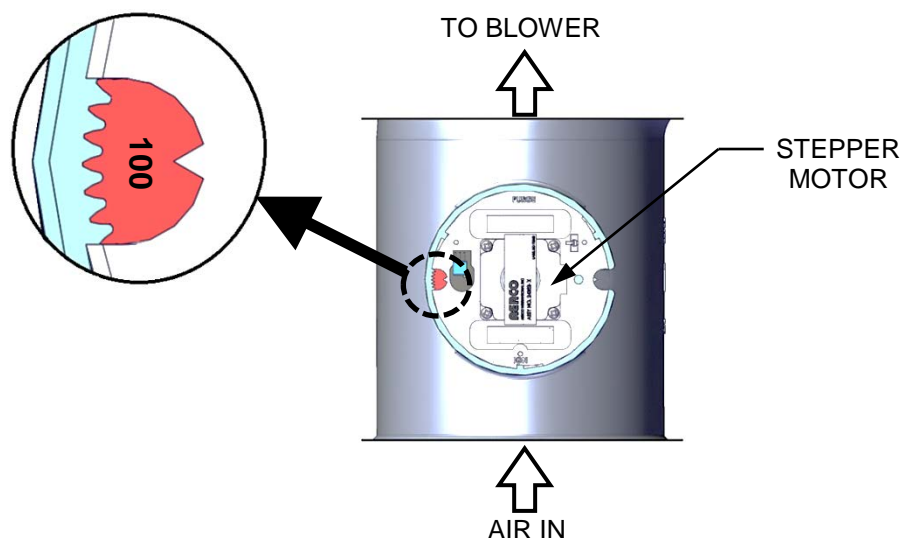

Figure 3-4: Air/Fuel Valve In Purge Position
- b) The Air/Fuel Valve rotates to the full-open purge position and closes purge position switch. The dial on the Air/Fuel Valve will read **100** (Figure 3-4) to indicate that it is full-open (100%).